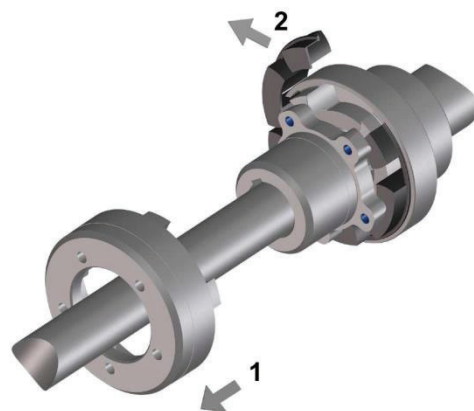

Fig. 18
- ☐ Unscrew the claw ring and push it back (Fig. 18, Item 1).
- ☐ Remove the intermediate ring (Fig. 18, Item 2). Start at the cut-through connection bridge.